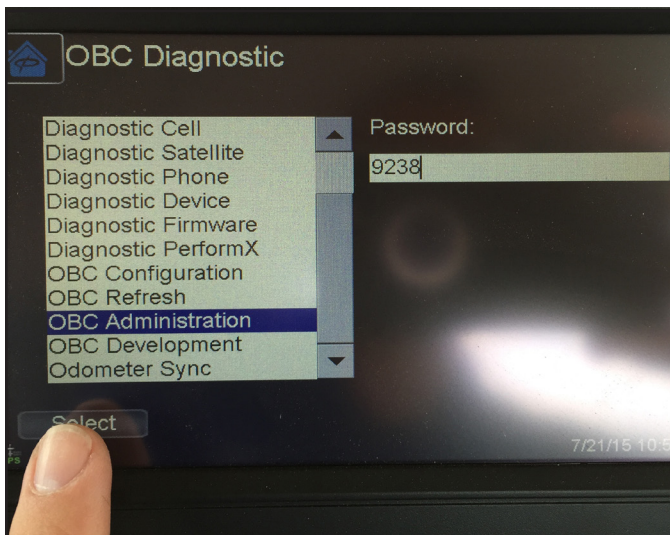

Figure 7 – Password Entry
7. When a password entry field is displayed, *enter the password 9238 and press the Select icon. See Figure 7.*